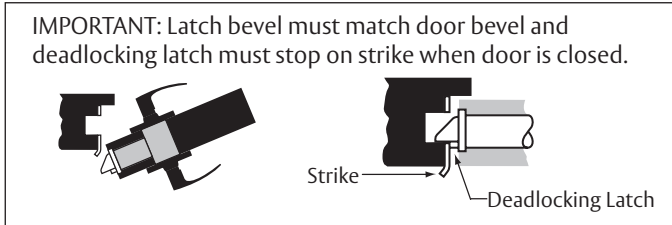
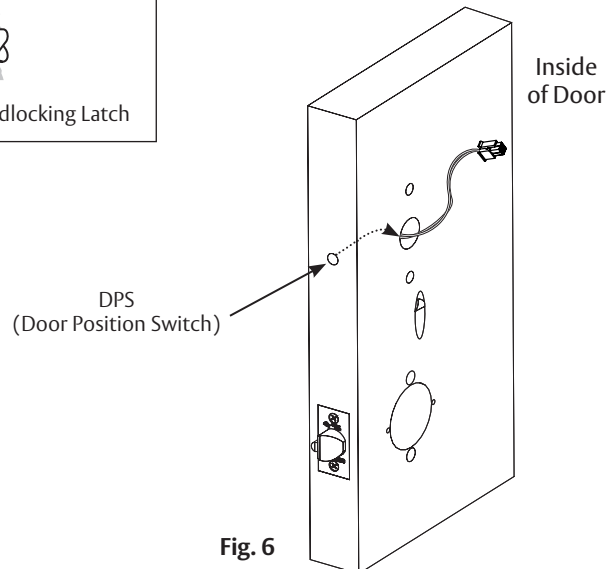

Fig. 5
Fig. 6
- a. Install latch with beveled bolt facing strike. (Fig. 5)
- b. Attach with two (2) screws but DO NOT tighten completely at this time. (See 8. Secure lock to door)
4. Install door position switch (Fig. 6)